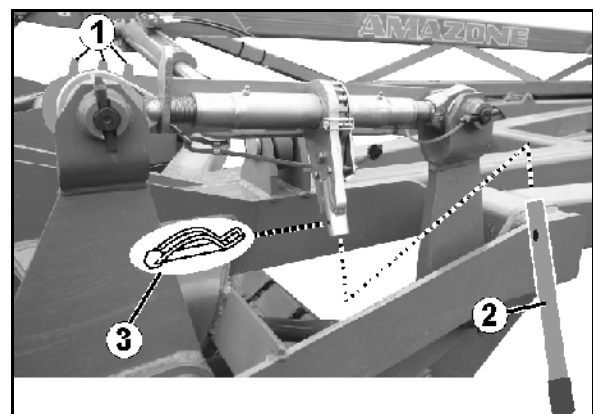

Fig. 57
Centaur Super, Fig. 57
The scale (Fig. 57/1) helps you to set the spindles to the same length.
2. Secure the hand lever (Fig. 57/2) with linch pin (Fig. 57) to the ratchet (Fig. 57).